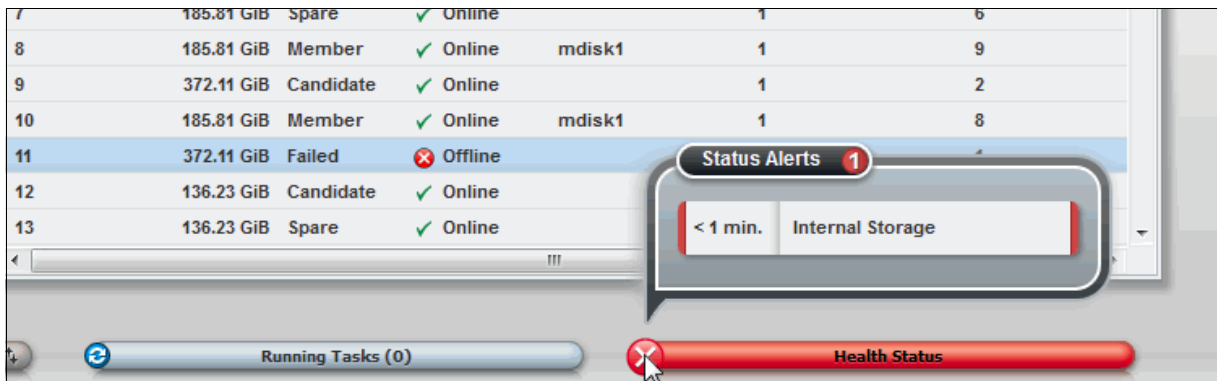

Figure 3-33 Health Status menu
1. Click in the attention icon on the left side of the health status bar, as shown in Figure 3-33.